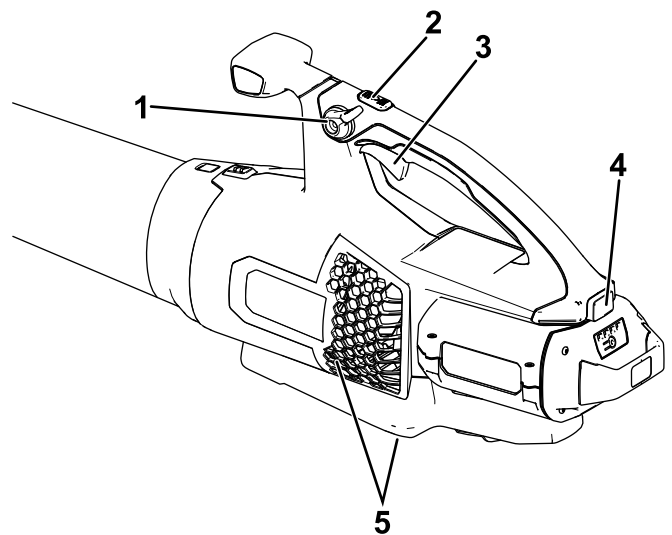

Figure 6
4. To start the blower, squeeze the variable-speed trigger (Figure 6).
Note: Engage the speed lock to keep the machine on without pressing the variable-speed trigger (Figure 6).
To achieve maximum performance (air speed), fully depress the variable-speed trigger, then press and hold the turbo boost button for the desired amount of time (Figure 6).
To adjust the air speed as you blow, use the variable-speed trigger (Figure 6).
To maintain the current air speed, engage the speed lock (Figure 6).
To shut off the blower, disengage the speed lock (if in use) and release the variable-speed trigger (Figure 6).